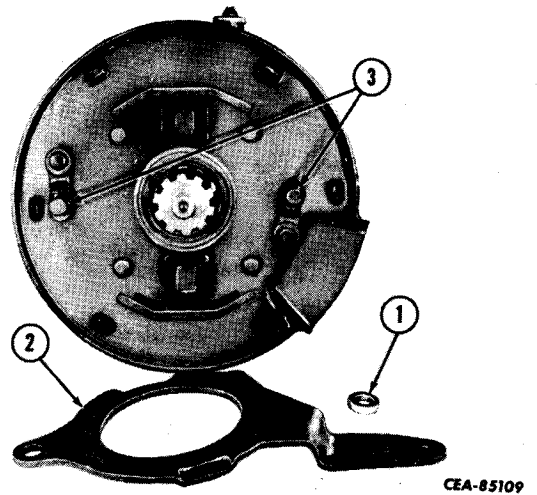

Figure 5-22
Remove the operating cam lever (2, Fig. 5-22) and the roller (1) from the pawls (3) on the backing plate.